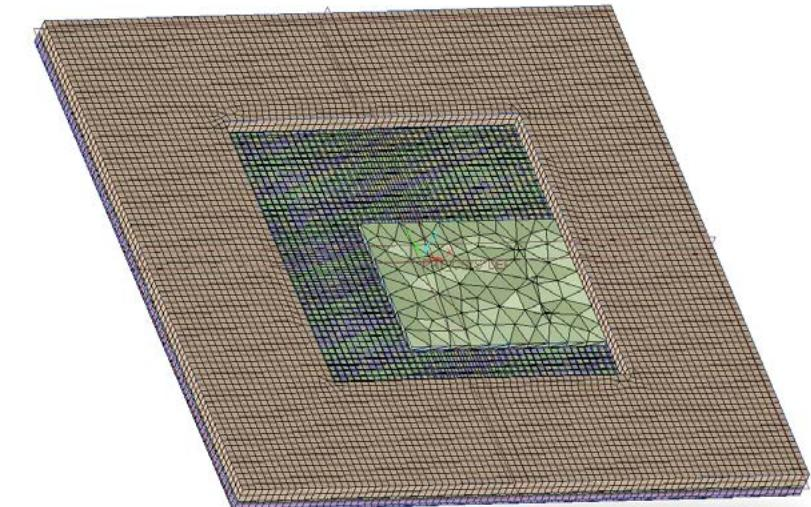

Figure 3. 3D simulation model.
To perform the steady-state thermal analysis, a model was created that mirrored the packaged device assembly (Figure 3). As in the actual assembly, the device is offset from the center of the package. The package used was an off-the-shelf StratEdge Leaded Laminate (LL) Series package, part number LL4545-0-2, with broadband RF performance from DC to 63 GHz. The device's RF output port was aligned next to an RF pad on the package as close as possible to the cavity wall so that the ribbon connecting the device to the package was as short as possible. StratEdge packages are manufactured with essentially no